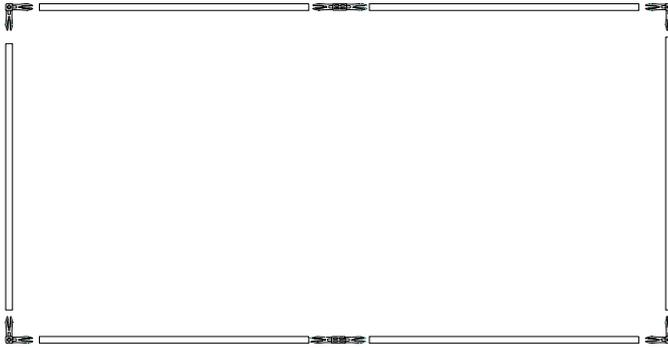

Figure 11: Diagram of 2 ft x 4 ft frame
- 1 Build the 2 ft x 4 ft frame structure as shown in Figure 11 using six 2 ft aluminum frame tubing pieces, four right-angle tubing connectors, and two straight tubing connectors. Remember to construct the frame so that all Velcro surfaces face in (toward the center of the structure).